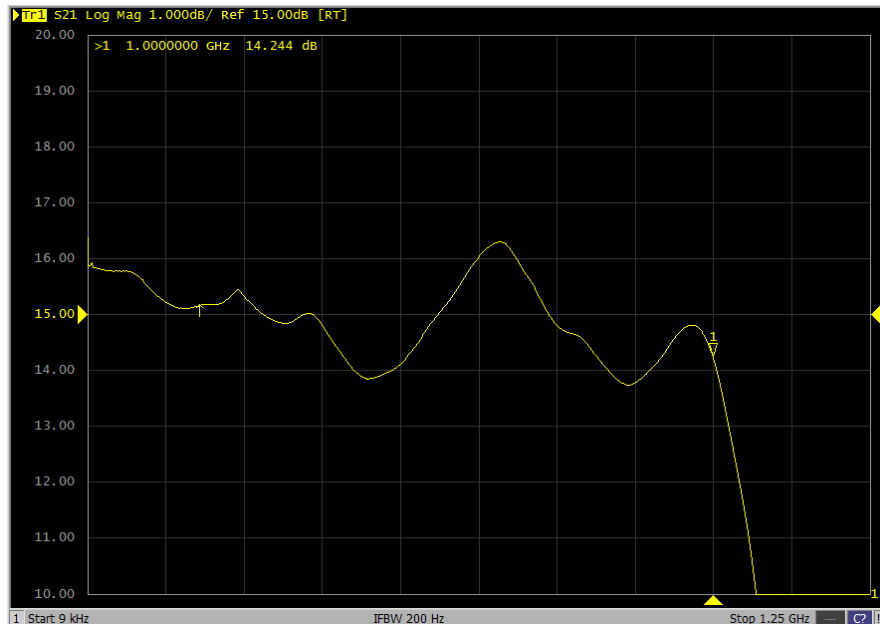

Figure 4-3. Typical U Final Module Response
- The typical response for the A1 Pre-Amplifier (at maximum gain setting) is shown in Figure 4-3.